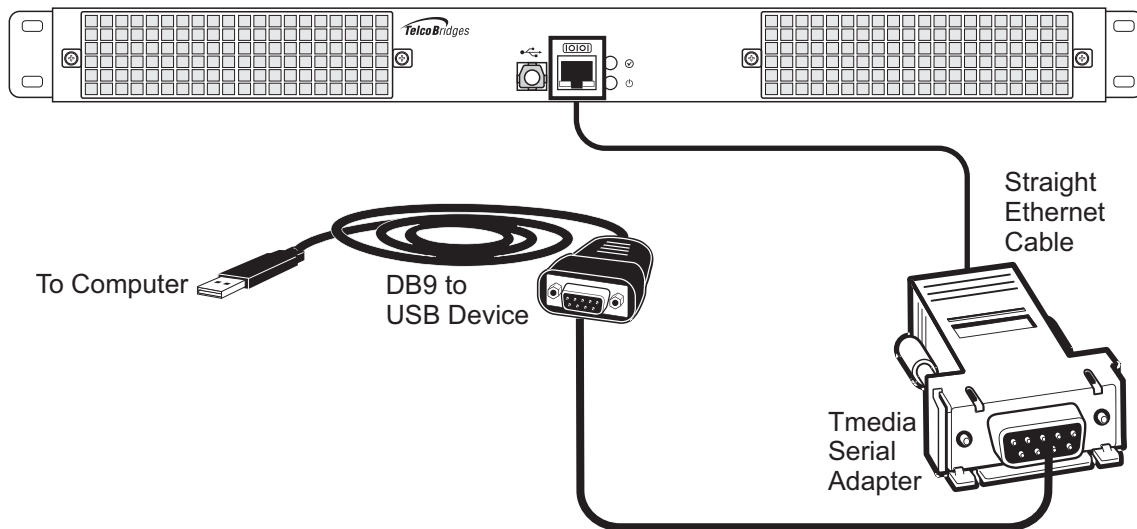

Figure 3.3 Conceptual View of a Serial Connection from the 3200 Series Gateway to a Computer
2. If your computer's serial port features a DB9 connector connect directly otherwise use the Tmedia serial adapter supplied with your 3200 series gateway. If your computer's serial port features a USB connector, you will need to provide a USB to DB9 adapter. Refer to figure 3.3 on page 54.